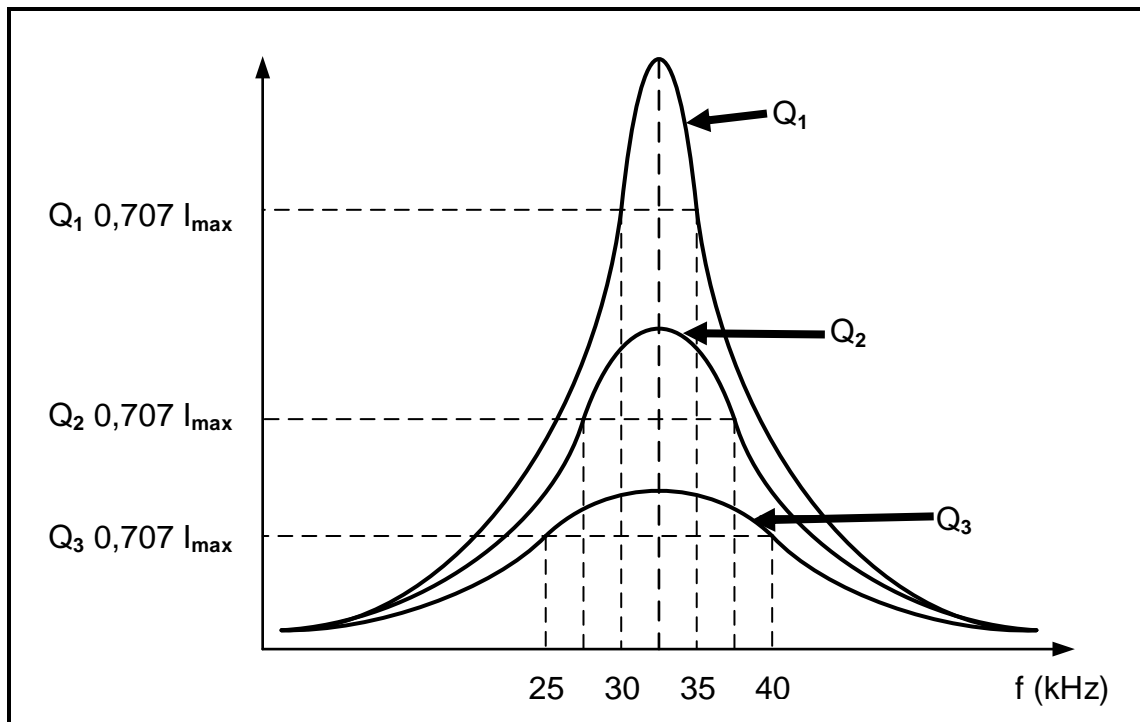

FIGURE 2.5: Q-FACTOR CHARACTERISTIC CURVE
- 2.5 FIGURE 2.5 below shows the Q-factor characteristic curve of an RLC circuit, NOT to scale. Q_1 , Q_2 and Q_3 indicate how a change in the L/C ratio affects the Q-factor of a resonant circuit. Answer the questions that follow.